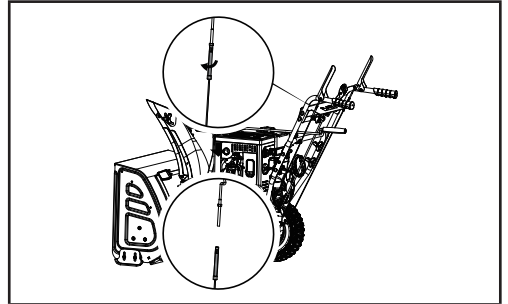

Figure 35
4. Unscrew the bolt of auger control wire (Fig. 35).